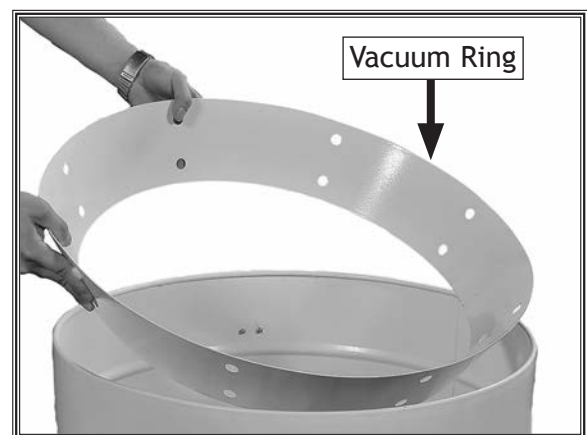

Figure 19. Inserting vacuum ring into collection drum.
18. Place vacuum ring inside collection drum with smaller side of ring facing down, as shown in **Figure 19**.